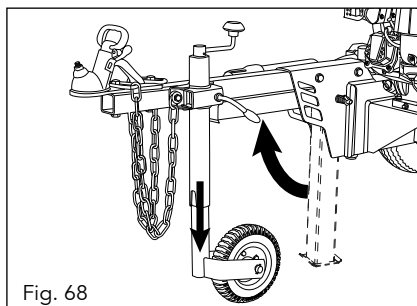

Fig. 68
3. Before moving you must raise and lock the front support leg (7) in the horizontal position. Firstly pull the U-shaped lock pin away from the log splitter. Rotate the U-shaped lock pin to lift the support leg to the horizontal position. Release to lock in the support leg horizontally (fig. 68).